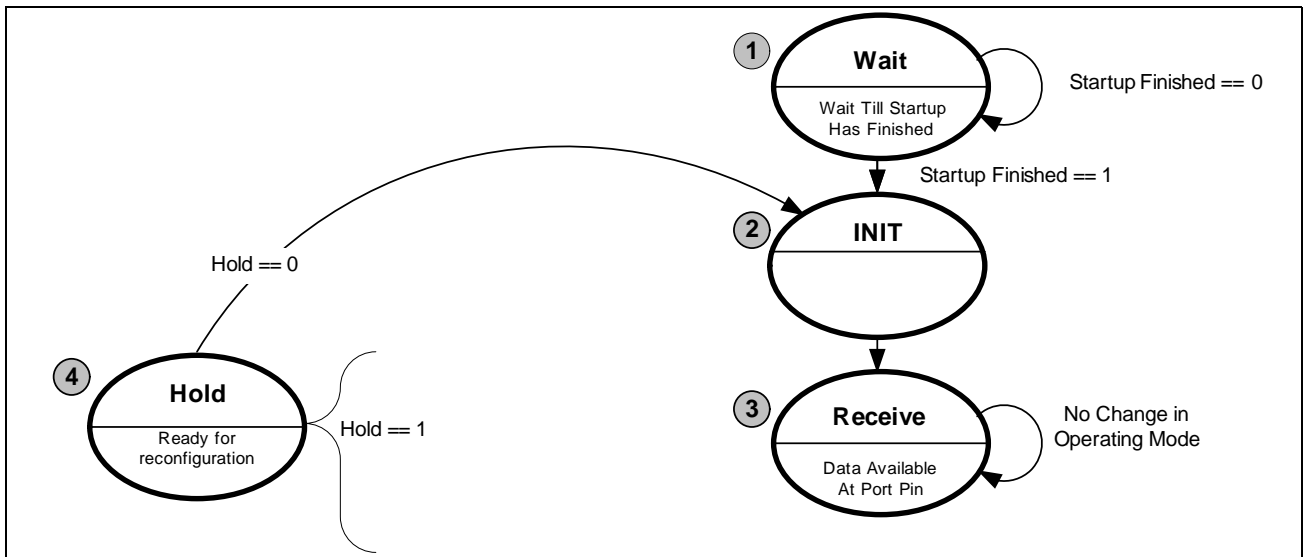

Figure 37 Run Mode Slave
This state (item 4 in Figure 37) is used for fast reconfiguration of the chip in Run Mode Slave. HOLD state can be reached after the Start-Up Sequencer and Initialization of the chip have been completed and the chip is working in state 3. To reconfigure the chip the SFR control bit HOLD must be set. After reconfiguration in this state the SFR control bit HOLD must be cleared again. After leaving the HOLD state, the INIT state is entered and the receiver can work with the new settings. Be aware that the time between changing the configuration and reinitialization of the chip has to be at least 40µs. Take note that one SPI command for clearing the SFR control bit HOLD needs 24 bits or 12µs at an SPI data rate of 2.0Mbit/s. The remaining 28µs must be guaranteed by the application.